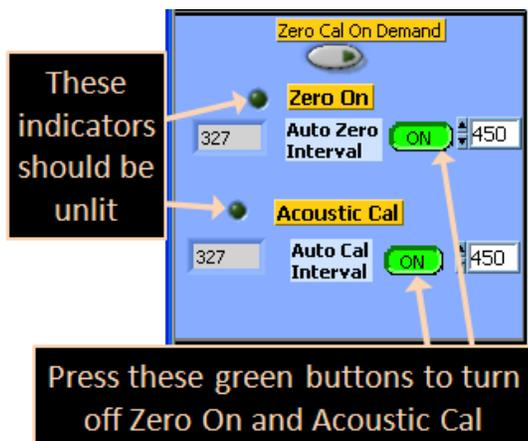

Figure 6: Preparing PASS-3 for Calibration
1. Allow the instrument to warm up for 1 hour, sampling air with filter on the inlet. (If the room air is fairly clean, i.e. $B_{scat} < 20 Mm^{-1}$, you don't need the filter.) On the front panel of the PASS-3 control program, press the green **Zero On** and **Acoustic Cal** buttons to turn off these functions (Figure 6).